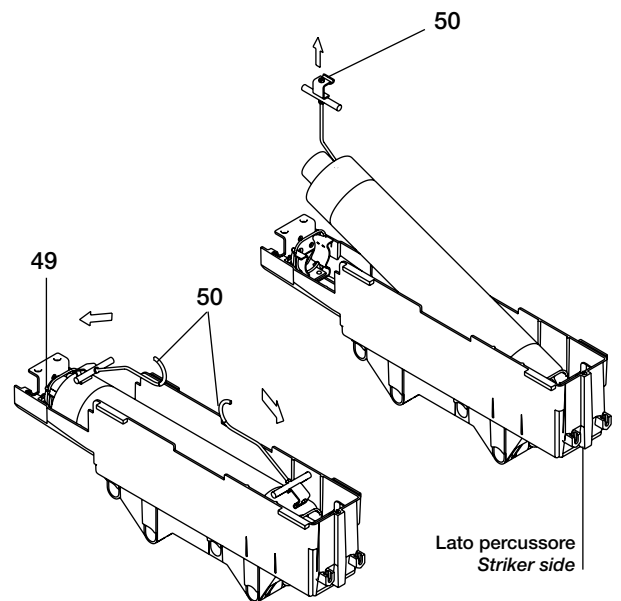

Fig. 5d
d) Dismantling the fuses (fig. 5d)